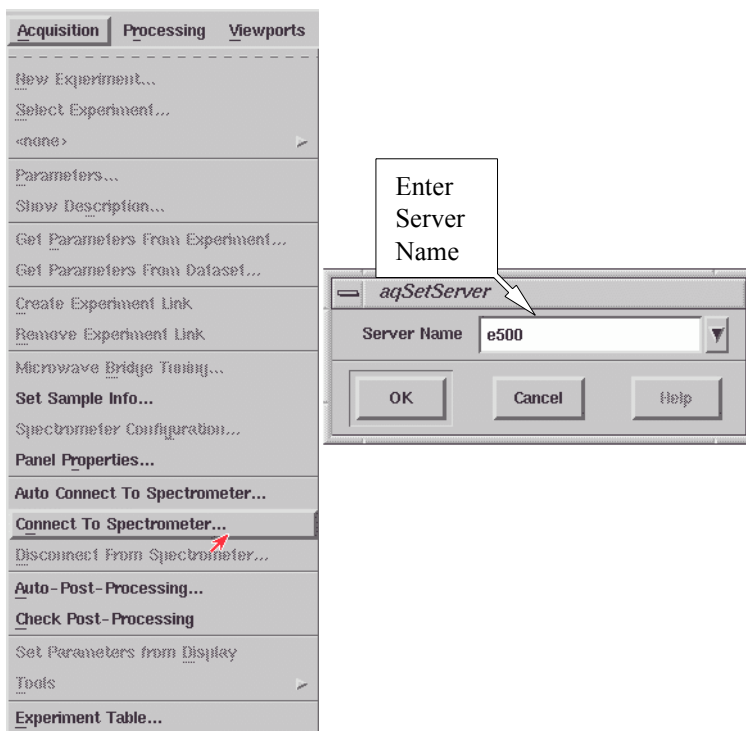

Figure 16-6 Connecting to the spectrometer.
3. **Connect to spectrometer.** Click Acquisition in the menu bar and then Connect To Spectrometer. A dialog box will appear prompting for the Server Name. Enter the acquisition server's name in the blank box and click OK. (See Figure 16-6.) If you do not know the acquisition server's name, ask the system administrator. The typical servers names are e500, e580, e600, or e680, depending on the type of spectrometer.